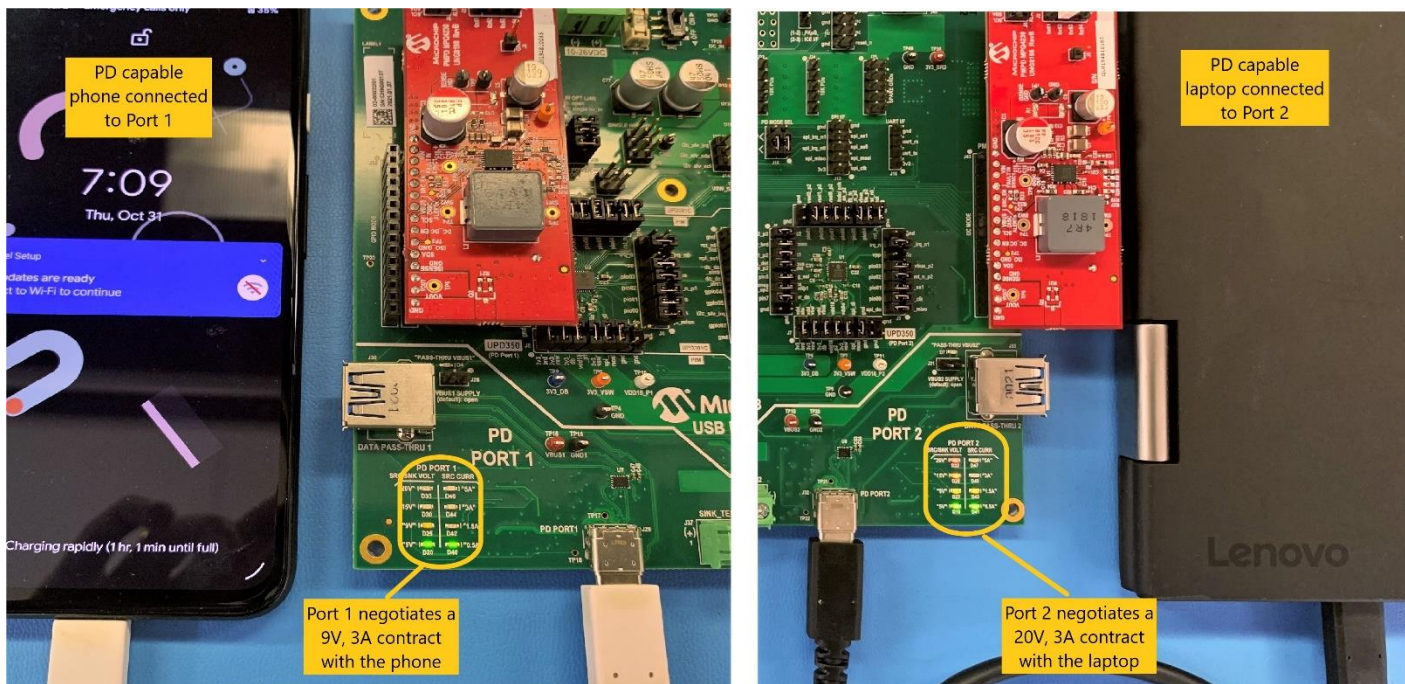

Figure 7.3 20V negotiation with PD Capable Laptop connected to PD Port 2
6. One more scenario is shown where a PD Capable Phone connected to Port1 has requested for 5V and PD Capable Laptop connected to PD port 2 has requested for 20V. After PD negotiation, the laptop starts charging. All the PDO status LEDs glow which indicates that 20V is negotiated as shown in Figure 7.3.